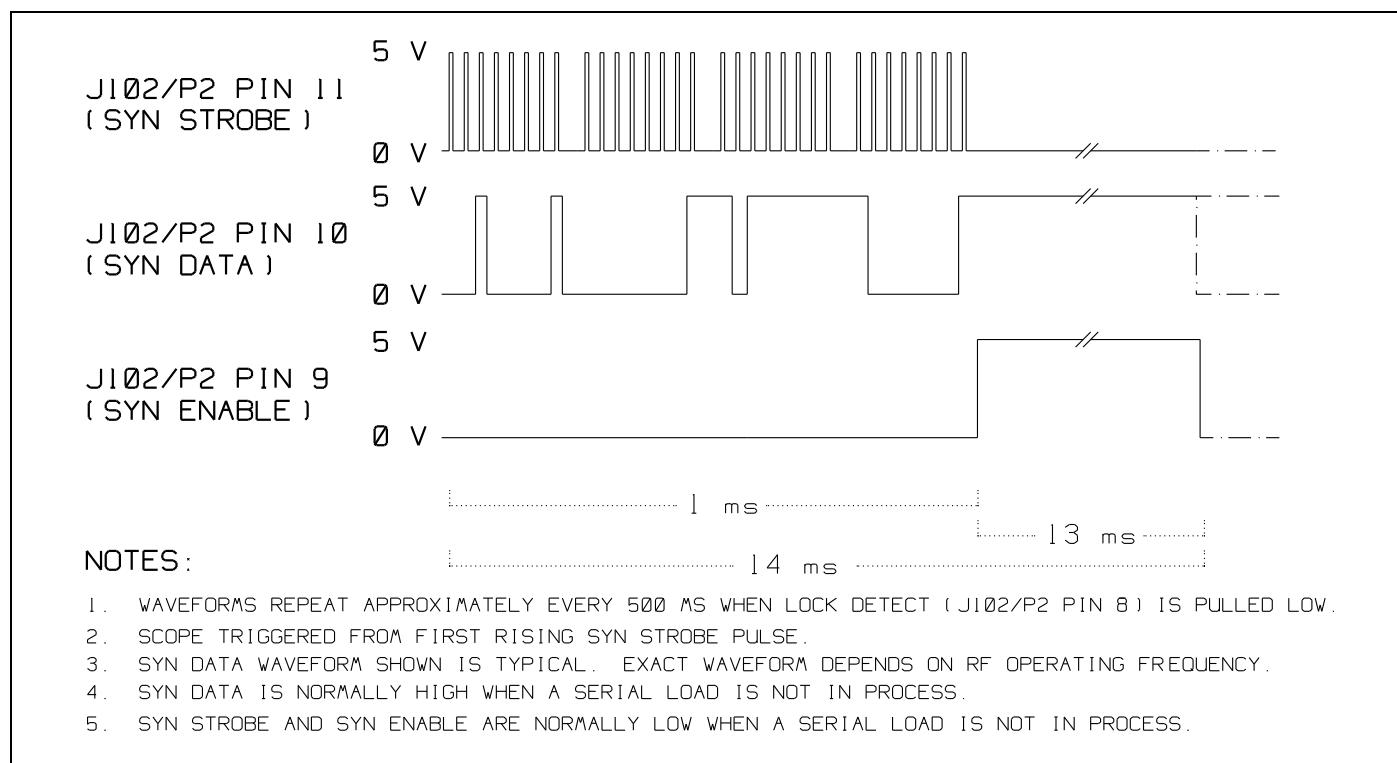

Figure 3 - Synthesizer Load Pulses
3. Monitor the synthesizer load pulses (J102/P2 pins 9, 10 and 11) for pulse activity when a channel is changed. See Figure 3. If these signals are not present, suspect a defective I/O Microcontroller. A failure of only one signal points to an open series resistor on the Control Board or a defective output from U7. NOTE: Tempor-